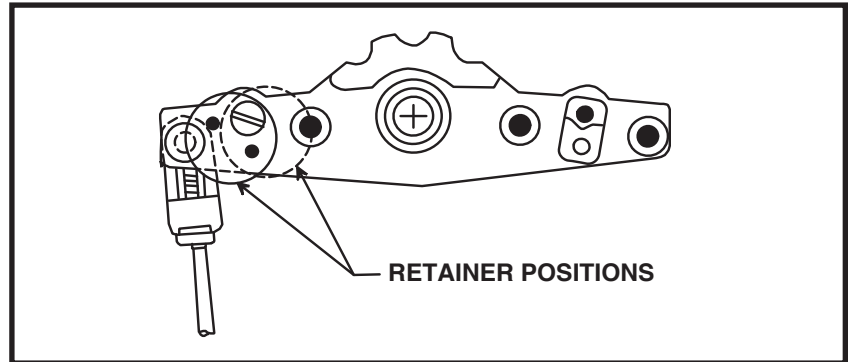

Figure 4.
Fasten terminal (20) to arm (17) with pin (29), retainer (19), screw (18) and nut (12). (See Figure 4 & 5.)